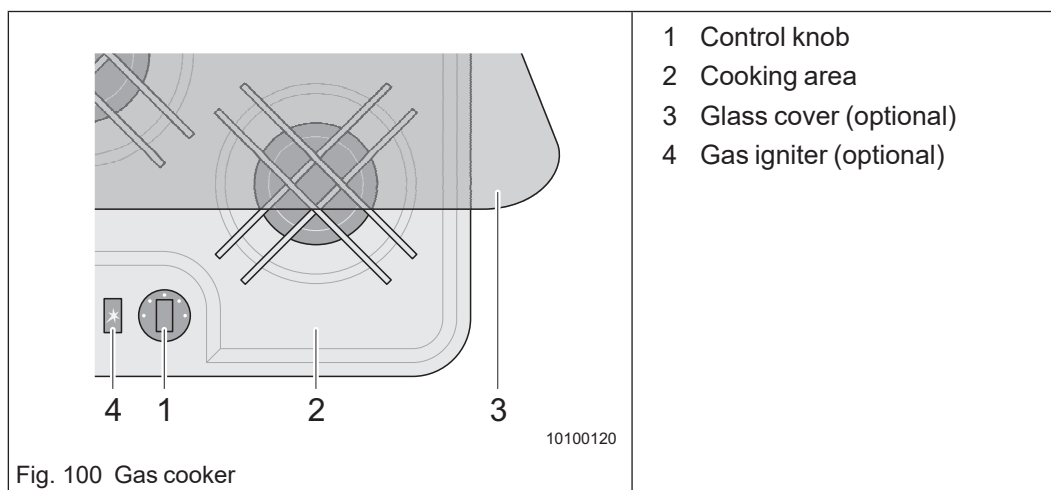

Fig. 100 Gas cooker
- ➔ Fold up the glass cover (Fig. 100/3) of the cooking area (Fig. 100/2).
- ➔ Turn the rotary knob (Fig. 100/1) for the desired hob (Fig. 100/2) to "high flame", press and keep pressed. Gas flows out.
- ➔ Ignite the gas flowing out with a suitable ignition device and keep the control knob (Fig. 100/1) depressed for approx. 10 seconds until the flame safety device keeps the gas supply open.
- Piezo gas igniter: Each time the button (Fig. 100/4) is pressed, a spark is created to ignite the gas.
- Electric gas igniter: When the button (Fig. 100/4) is pressed, several ignition sparks are created until you release the gas igniter.